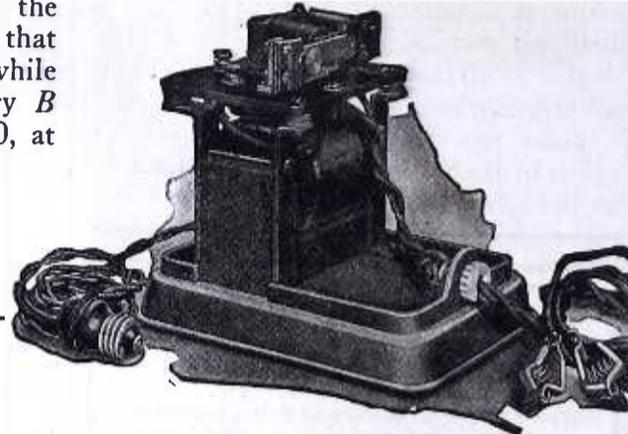

Fig. 11. Typical Vibrating Contact Rectifier
How these conditions are met in practice will best be seen from a consideration of a standard typical charger, a picture of which is seen in Fig. 11. The schematic connection diagram of this charger is shown in Fig. 12. The complete charging outfit consists essentially of the following parts:
- (a). A step-down transformer *T* for reducing the line voltage from 110 or 220 volts a.c. to the voltage necessary for charging the battery. This transformer is seen mounted directly on the base in Fig. 11. The transformer should be efficiently designed to reduce losses which go to increase cost of charging batteries. It should also be designed so that it will be capable of withstanding reasonable overload without undue heating.
- (b). An electro-magnet *M*, Fig. 12, seen in Fig. 11 mounted on top of the step-down transformer,